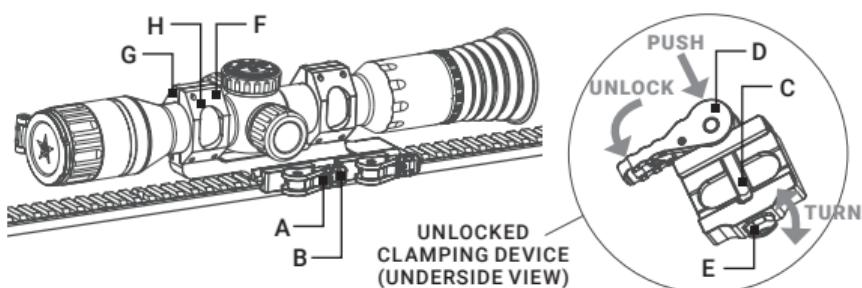

FIGURE 2-6. INSTALLATION WITH QUICK RELEASE MOUNT
The Spectrum 4K Mini scope can be mounted on a Picatinny/Weaver rail using optional AGM quick release (QR) mount (Figure 2-6).
1. Unlock the clamping devices of the QR mount by pushing down on the lever holders (A) and unlocking the levers (B).
2. Install the mount on the Picatinny/ Weaver rail so that the stops (C) slide into the transverse slots on the rail.
3. Affix the mount to the rail by locking the levers (B).